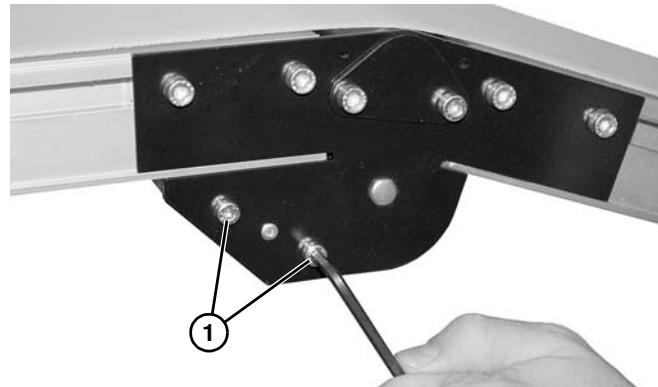

Figure 61
1. Remove screws (**Figure 61, item 1**) on both sides of conveyor.